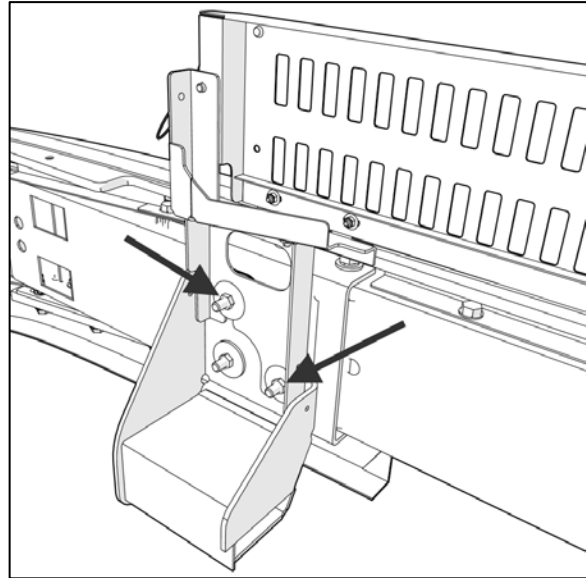

Figure 9
9. Tighten all bumper nuts (4) (Figure 9).